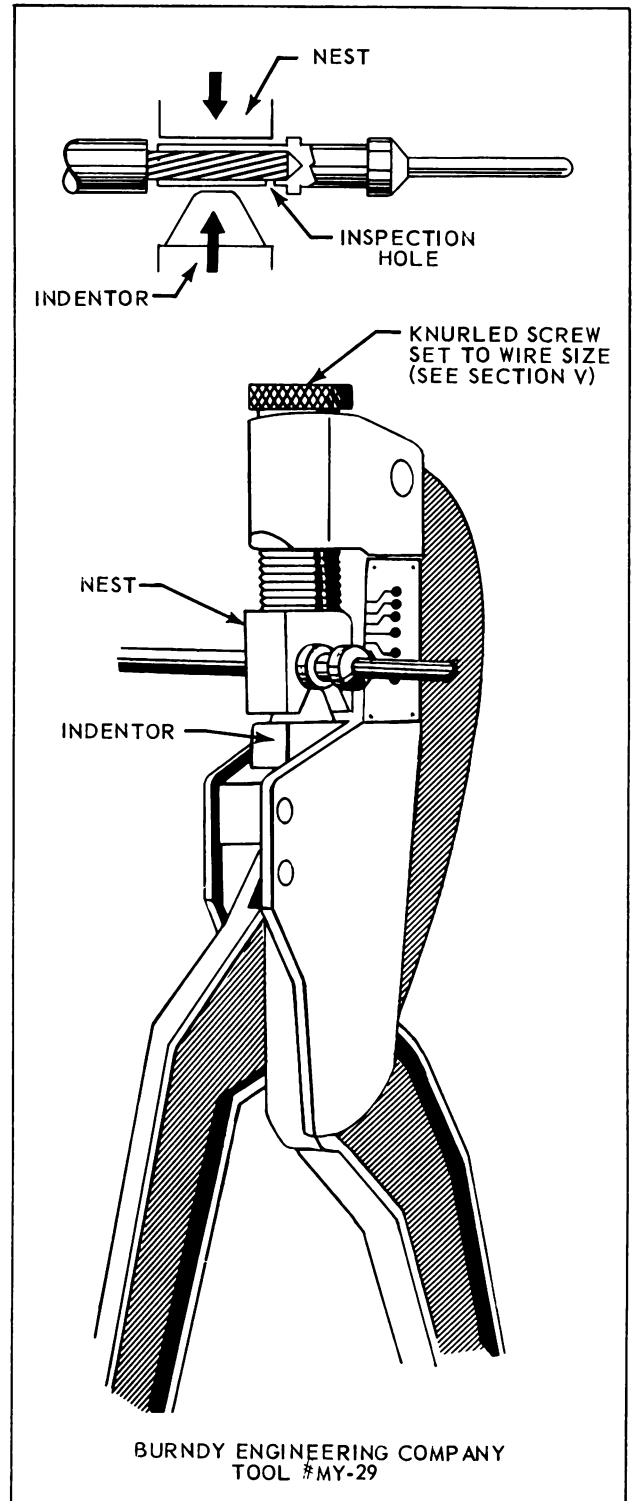

Figure 3-57. Crimping Contact with Burndy MY-29 Tool
3. Position first shoulder of contact, from contact well end, against nest (see Figure 3-57). Be sure wire is fully seated in contact well. Close handles completely, release and remove contact.